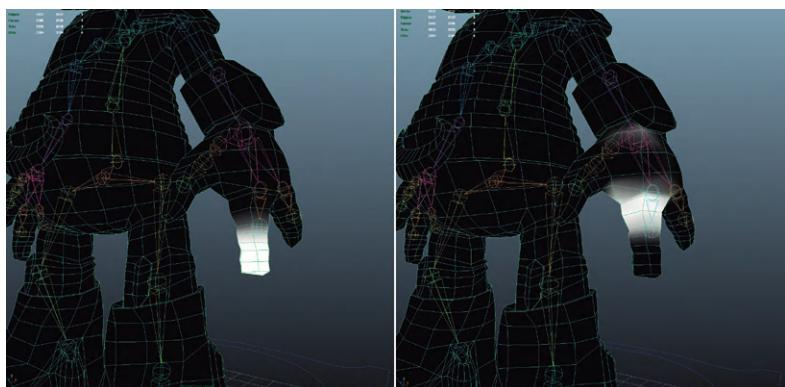

FIG 8.34 Finger skin weights.
Step 13: Repeat the process for the arms by starting on the fingertips and moving up the hierarchy to the back (Figs 8.34–8.36).